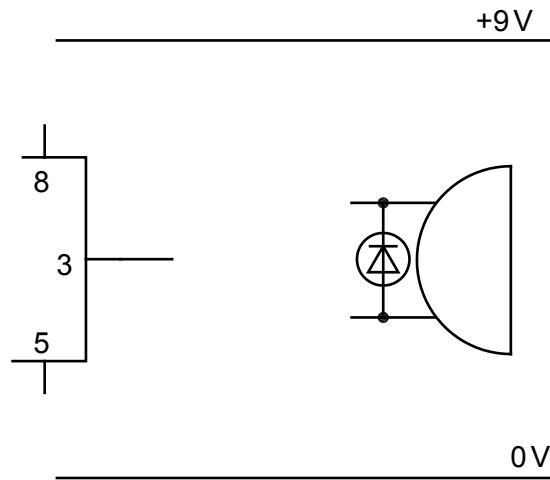

Fig. 11.5
- (iii) Complete Fig. 11.5 to show how the buzzer with a protective diode would be connected so that it sounds when pin 3 is at 0V.